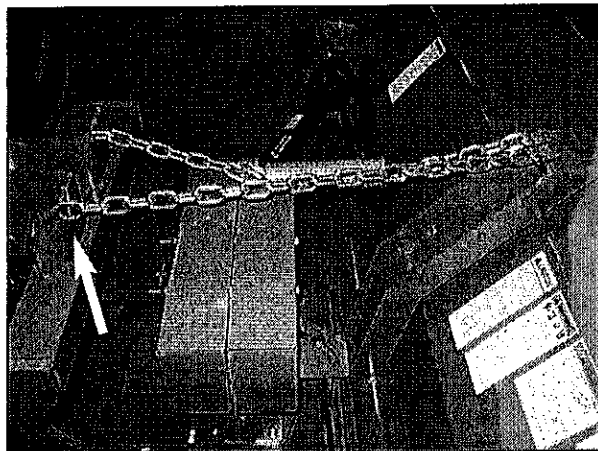

Figure 8
12. Connect the transport chain, already bolted to the brush frame upright. To the LH chain holder slot (figure 8).